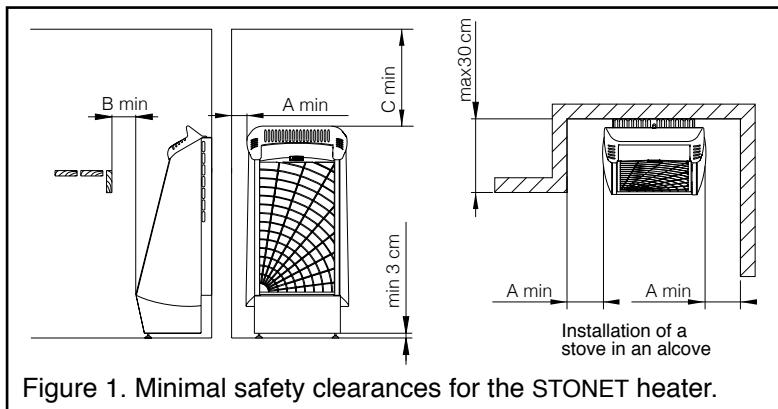

Figure 1. Minimal safety clearances for the STONET heater.
\*\*) See figure 1
- The heater can also be installed into a wall recess, see figure 1.